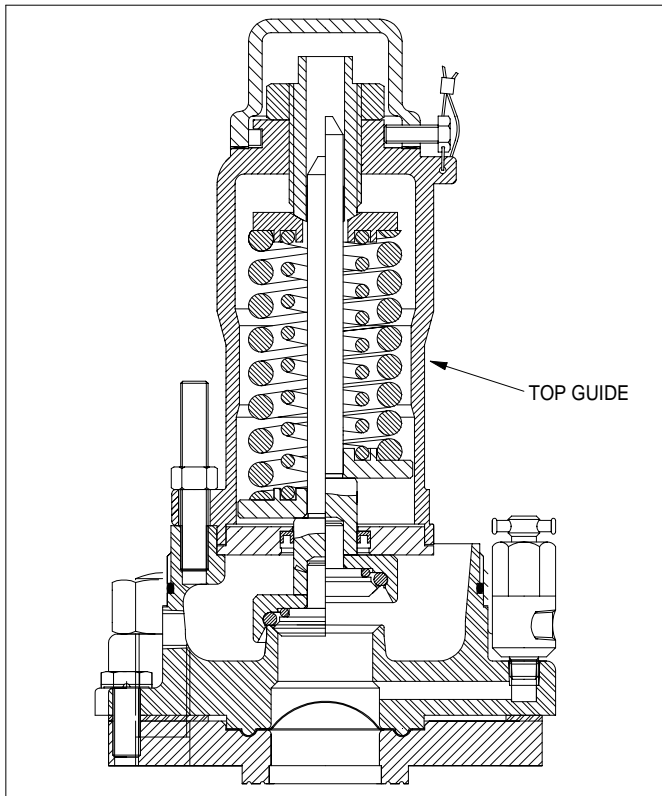

Figure 3 - Valve Top Guide
1.2.9 Hold the valve by the top guide (Fig. 3) and lower it gently into the mounting. Align the body holes over the studs and lower the valve while positioning the valve tongue in the coverplate groove.